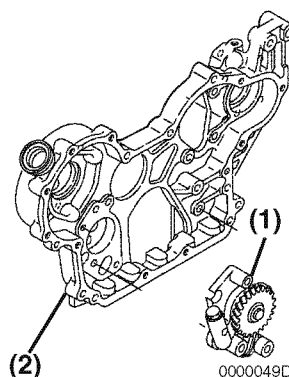

Figure 9-30
3. Reinstall the oil pump assembly **(Figure 9-30, (1))** into the gear case housing **(Figure 9-30, (2))**. Tighten the bolts to specified torque.